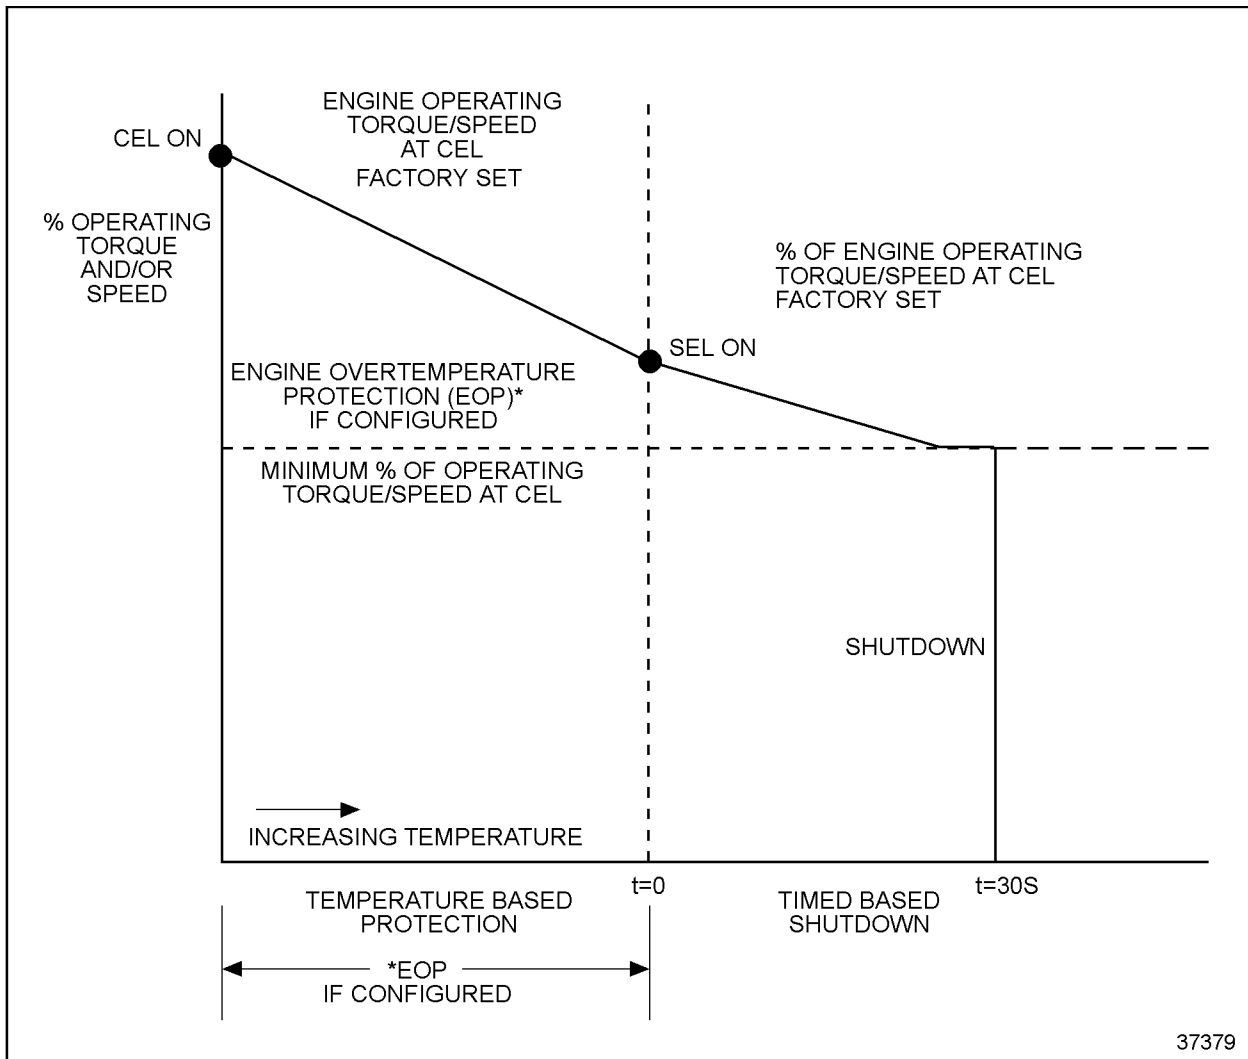

Figure 5-18 Engine Overtemperature Protection and Shutdown
- ☐ Shutdown (see Figure 5-18)